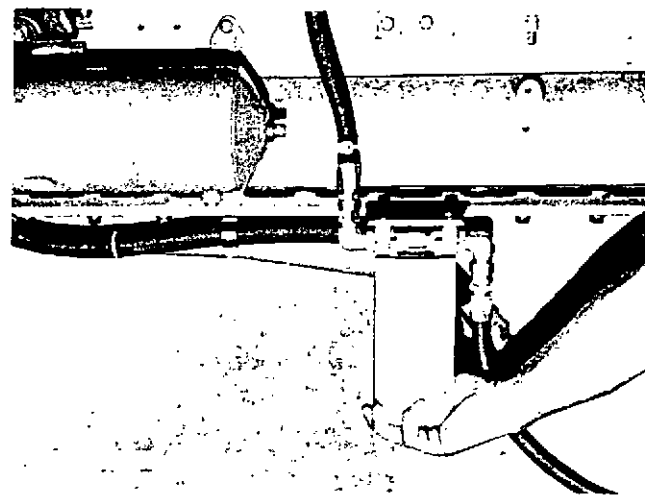

Fig. 5-12, N11929. Removing throw-away type fuel filter
1. Unscrew combination case and element; discard. Fig. 5-12.